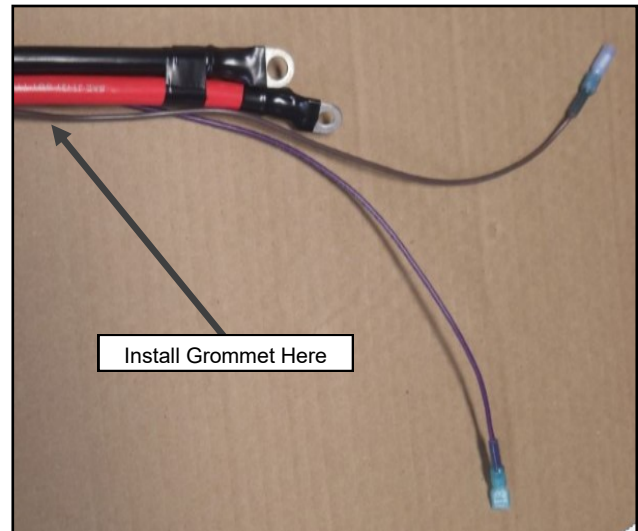

Fig. 1.2 (Install grommet on this end of power harness)
- 1.2 Install 1-7/8" O.D. Grommet onto the end of the Power Supply Wire Harness per Fig. 1.2. Make sure small lip of the grommet is pointed towards this end.